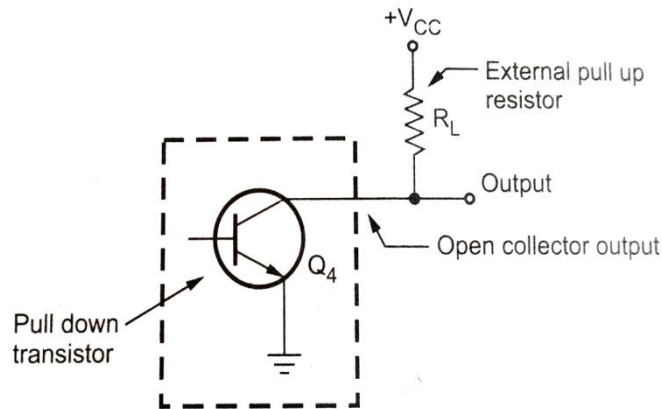

Figure 1.16: Open collector output with pull-up resistor
- Because the collector of Q_4 is open, a gate like this will not work properly until you connect an external pull-up resistor, as shown in figure 1.16.